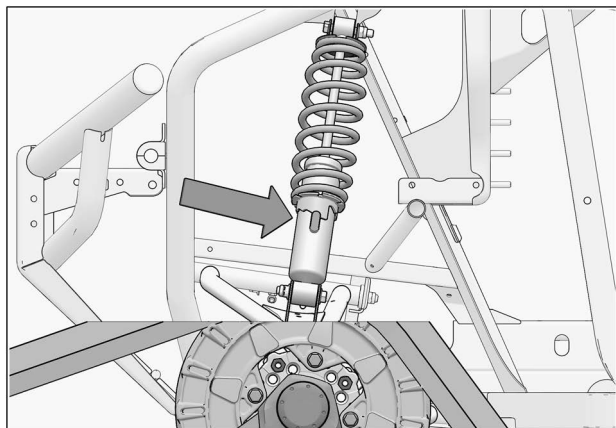

Fig. 33
1. Verify the suspension settings. If the shock absorbers are adjustable, adjust them to the stiffest setting to allow for maximum clearance between the System and the vehicle's fenders. See Fig. 33